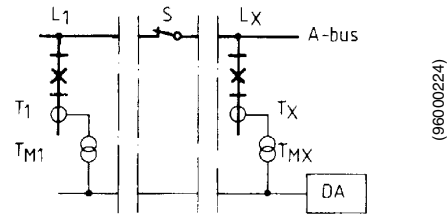

Fig. 1 Single-bus, one-zone with bus section switch normally closed
The most simple and reliable installation is the single bus one-zone arrangement (Fig. 1). In this case it can also be permitted that a bus section switch (S) is opened at certain times to split the bus in two parts. As long as there is no internal fault the REB 103 differential relay remains stable. This applies even when the two bus sections are working asynchronously, e.g. at different frequencies; however, when an internal fault occurs, both sections will always be tripped simultaneously. When the bus selection switch is open, the two sec-